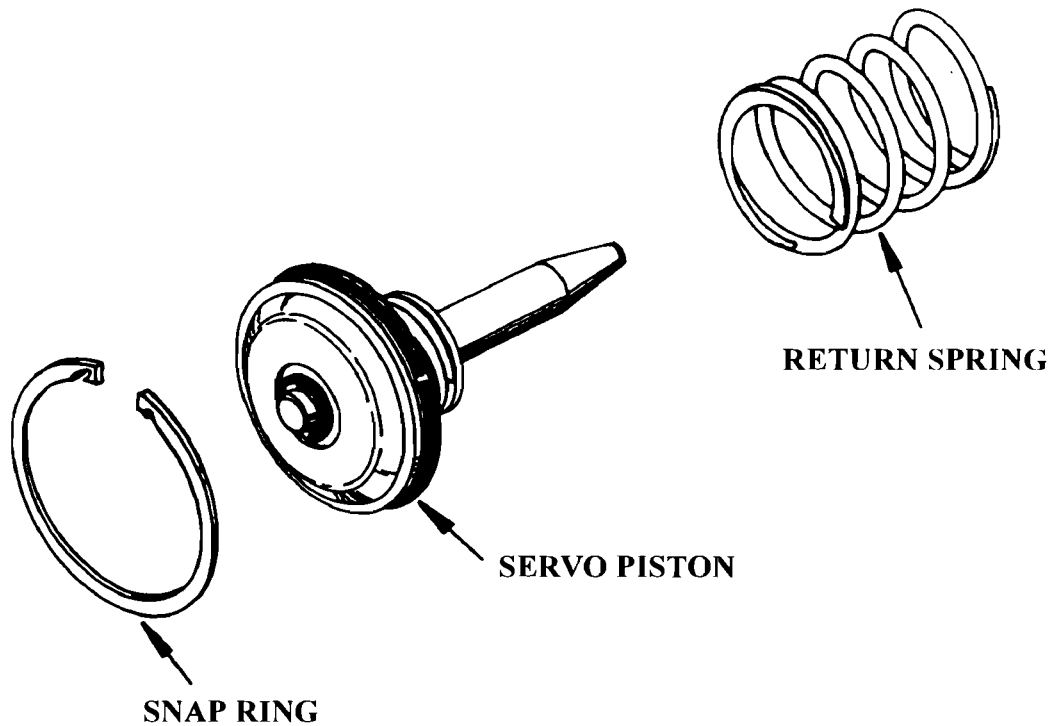

Figure 6
**CAUSE:** The cause may be a mis-assembled Overdrive Servo Assembly, with the "Rubber Coated Sleeve" omitted. The 4R70W transmission is calibrated with a smaller diameter overdrive servo piston than is the AOD-E transmission. To retain a common case between the two transmissions, an additional "Rubber Coated Sleeve" is required on the 4R70W Overdrive Servo Assembly, as shown in Figure 6.
**CORRECTION:** Install the "Rubber Coated Sleeve" in the Overdrive Servo Assembly, as shown in Figure 6. If your rubber coated sleeve is missing or lost, you **MUST** buy the complete Overdrive Servo Assembly, available under OEM part number F3LY-7H188-A. It is not available individually.